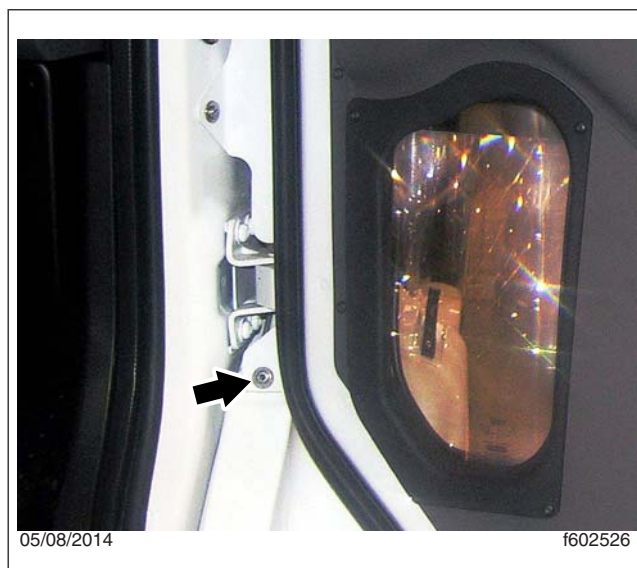

Fig. 2, Cowl Panel Lower Corner Screw
3. Remove the screw that attaches the lower corner of the cowl panel to the quarter fender. See Fig. 2.